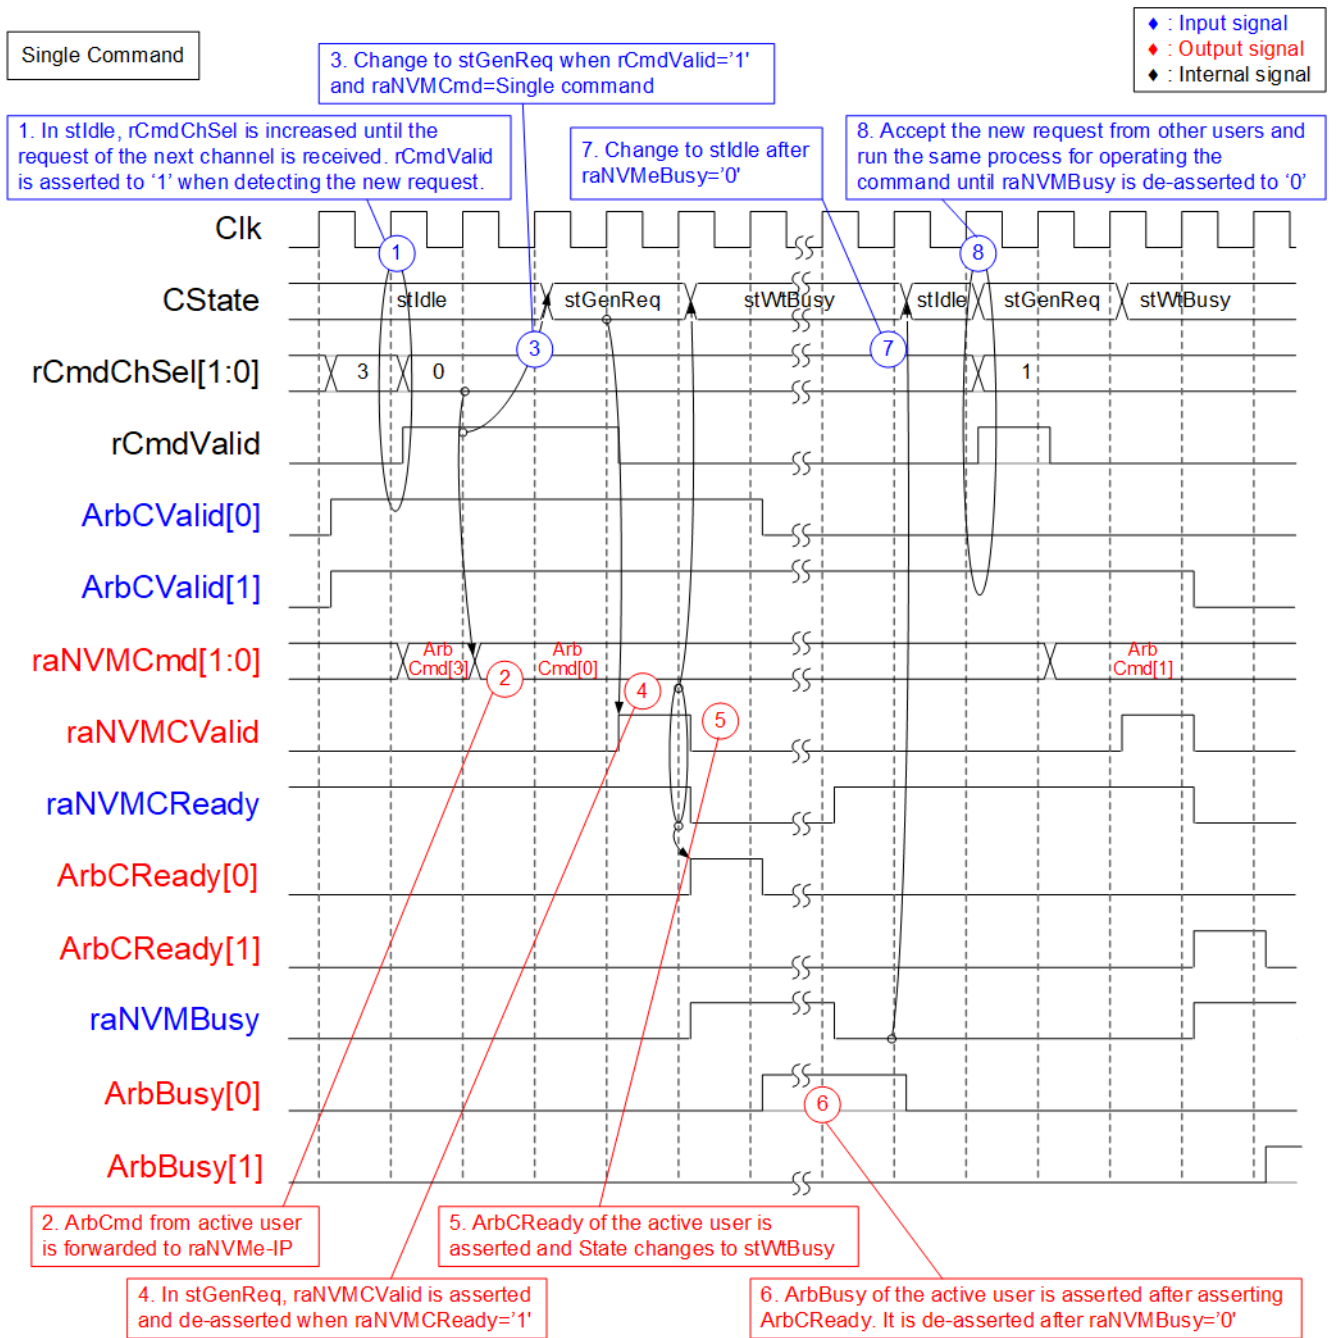
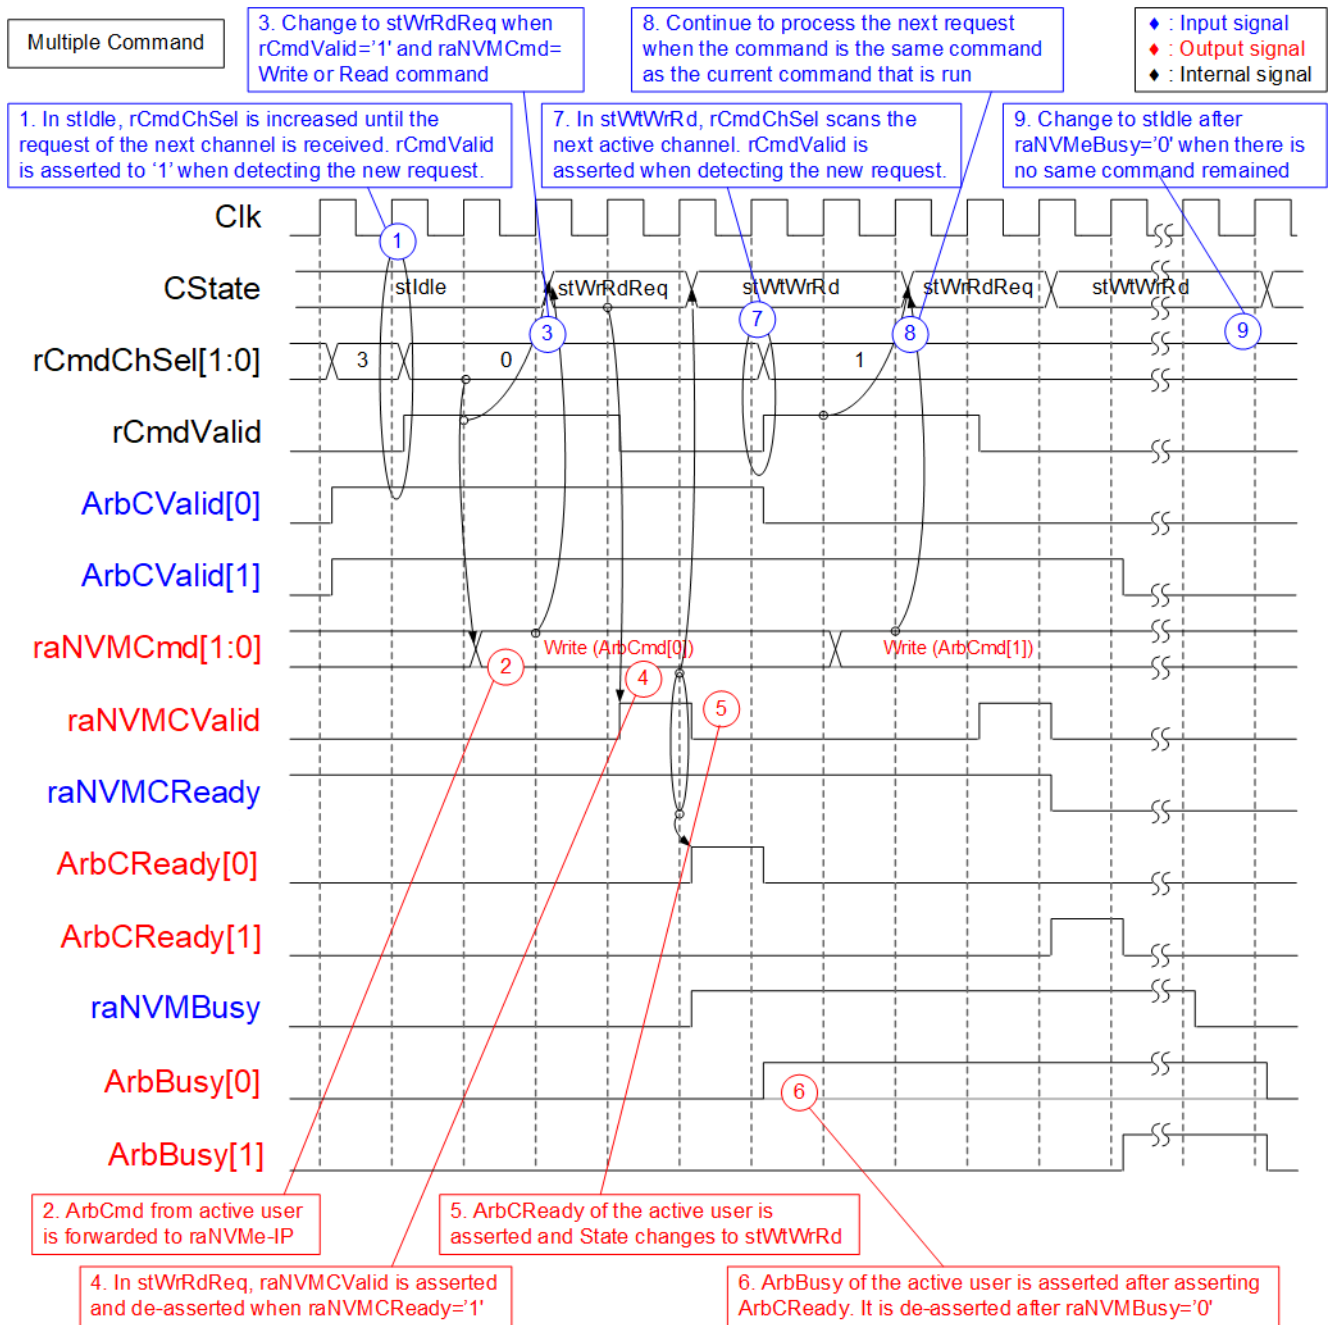

Figure 2-10 Timing diagram of raArbiter's Command I/F when running Single command
Figure 2-11 Timing diagram of raArbiter's Command I/F when running Multiple command
Timing diagram of Command interface when running Single command and Multiple command are shown in Figure 2-10 and Figure 2-11 respectively.
- (1) In stIdle, rCmdChSel is increased to scan ArbCValid of each channel until detecting some bits are asserted. In Figure 2-10, when ArbCValid[0]='1' and rCmdChSel=3 (changes to 0 in the next cycle), it will accept the request of channel#0 and start the operation. After that, rCmdChSel changes to 0 and holds the value until the command is completely processed. At the same time, rCmdValid is asserted to '1' when the request of some channels is accepted.
- (2) raNVMCmd and other parameters such as raNVMAAddr receive the inputs from the active channel, controlled by rCmdChSel.
- (3) Two clock cycles after rCmdValid asserted to '1', the state reads raNVMCmd to check the command type. If the command is Single command, it changes to stGenReq.
- (4) raNVMCValid is asserted to '1' to send the command request to raNVMe-IP. The signal is latched to '1' until raNVMe-IP accepts the request by asserting raNVMCReady to '1'.
- (5) ArbCReady of the active user is asserted to '1' for one cycle to be acknowledge signal. At the same time, the state changes to stWtBusy.
- (6) ArbBusy of the active user is asserted to '1' during operating the command. It is de-asserted to '0' after raNVMe-IP completes the operation (raNVMBusy='0').
- (7) After raNVMBusy is de-asserted to '0', the state changes to stIdle for receiving the new command request from the user.
- (8) Repeat step (1) for scanning the next channel. In Figure 2-10, user#1 sends the request when rCmdChSel=0. Consequently, rCmdChSel changes to 1 and rCmdValid is asserted to '1' for starting operating command from channel#1. After that, repeat step (2) – (7) if the command of user#1 is Single command.
- (3) Two clock cycles after rCmdValid asserted to '1', the state reads raNVMCmd to check the command type. If the command is Multiple command, it changes to stWrRdReq. In Figure 2-11, assume that the command is Write command.
- (5) ArbCReady of the active user is asserted to '1' for one cycle to be acknowledge signal. At the same time, the state changes to stWtWrRd.
- (7) During waiting the command operating, rCmdChSel is increased to scan the new command request. If the new request is detected, rCmdValid is asserted to '1'.
- (8) It changes to stWrRdReq for operating the next command if the new command from the new active user is the same command as the current command. As shown in Figure 2-11, the new command from user#1 is Write command which is the same as current command from user#0. The new command is requested to raNVMe-IP by asserting raNVMCValid to '1' with forwarding the parameters from the new user.
- (9) If there is no new command which is the same command (Write command), the state waits until raNVMBusy is de-asserted to '0'. After that, it changes to stIdle to operate the new command from user.